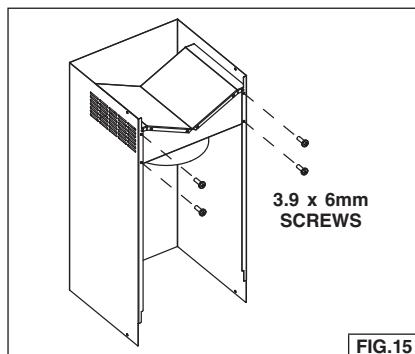

FIG.15
3. Install the plenum to the upper decorative flue using (4) 3.4 x 15 mm screws provided as shown. Fig. 15.